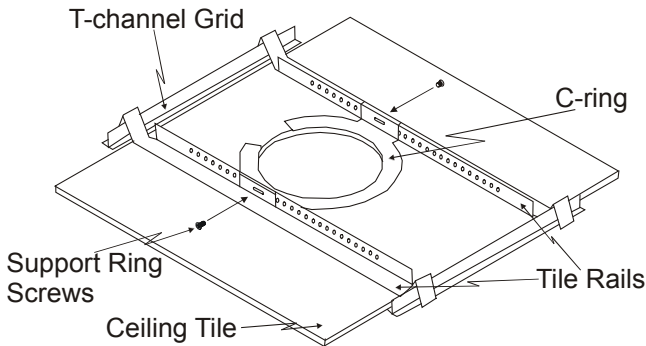

Figure 5: Installing the Open-back Ceiling Speakers
1. Place the C-ring over the hole cut in the ceiling tile (on the “ceiling” side). Place it around the hole so that the tabs are located in parallel to the tile edges (see Figure 5).